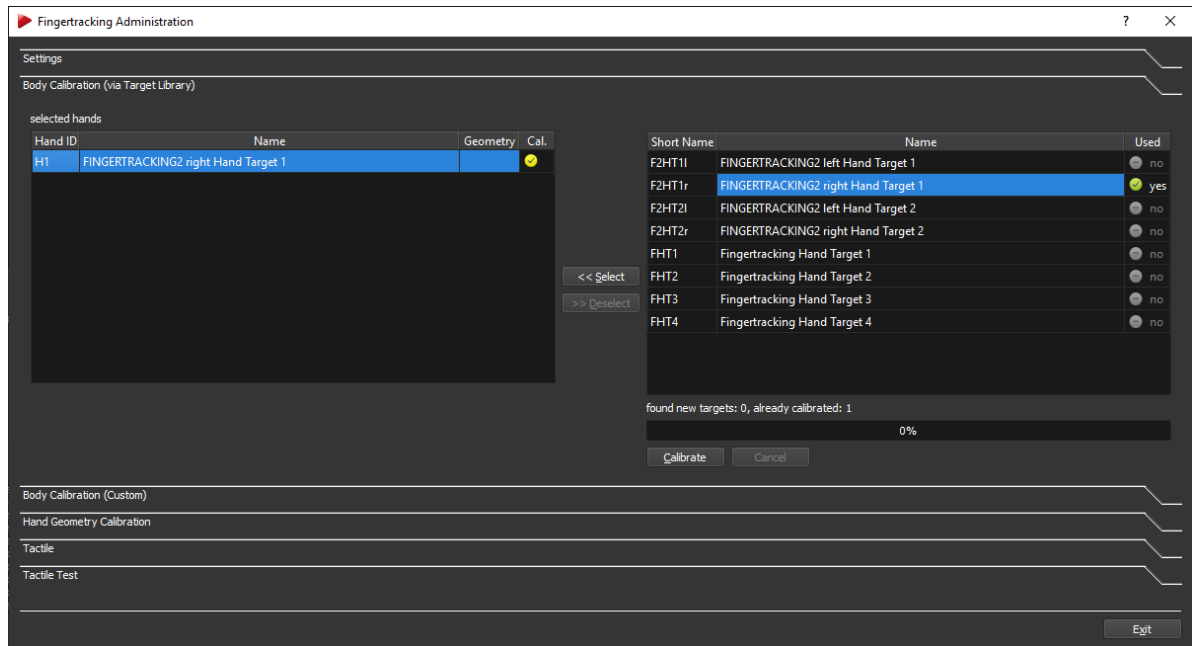

Figure 9.37: Fingertracking Administration - Body Calibration Target library
- run the target library identification by pressing *Calibrate*. The current status is shown by a progress bar while the amount of '*found new targets*' is listed (see bottom right in figure 9.37 on page 152).